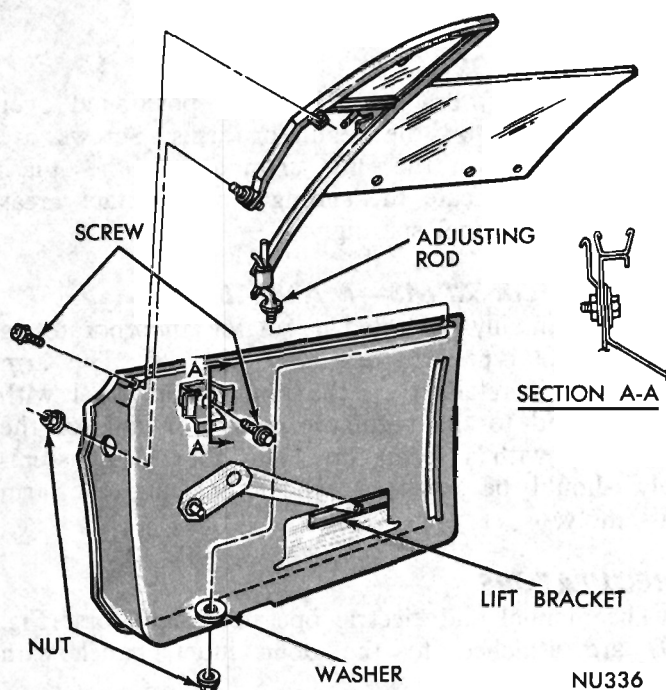

Fig. 12 - Glass Replacement
- (1) Remove nut and washer from end of division bar adjusting rod (Fig. 12).
- (2) Remove vent frame to belt spacer reinforcement screw.
- (3) Remove vent wing adjusting stud to upper hinge nut assembly and vent wing to belt attaching screw.